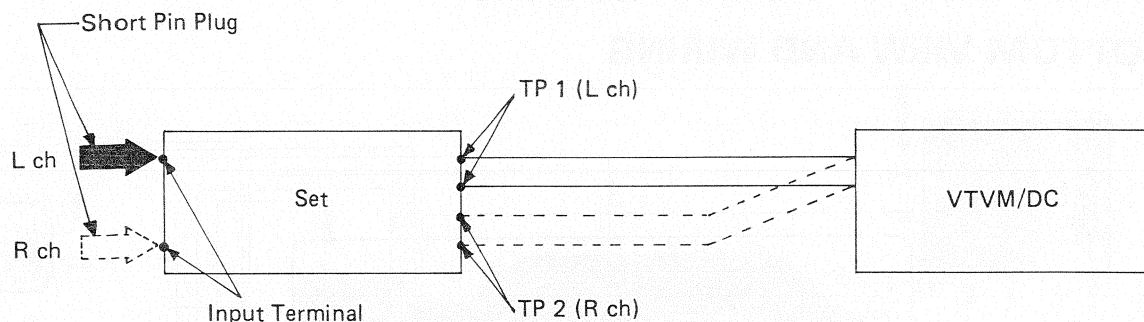

Figure 3
- (1) Connect test equipments as shown in Figure 3.
- (2) Short the input terminal with short pin plugs.
- (3) Adjust the SVR501 (L ch), and SVR502 (R ch) as the VTVM indicates $11 \pm 3\text{mV DC}$.